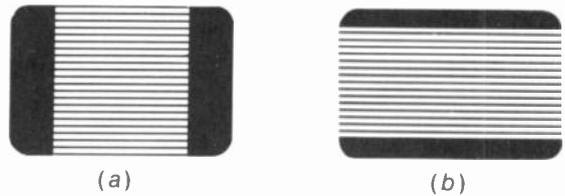

FIGURE 4-7 INCORRECT ASPECT RATIO IN RASTER. BLACK SHOWS AREAS OF SCREEN NOT COVERED BY SCANNING. (a) INSUFFICIENT WIDTH. (b) INSUFFICIENT HEIGHT.
**Incorrect aspect ratio.** Two cases are illustrated in Fig. 4-7. In *a* the raster on the picture tube screen is not wide enough for its height, compared with the 4:3 aspect ratio used in the camera tube. Then people in the picture look too tall and thin, with the same geometrical distortion as the raster. This raster needs more width. In *b*, the raster is not high enough for its width, and people in the picture will look too short. This raster needs more height. For both *a* and *b*, these troubles are generally caused by insufficient output from the horizontal and vertical deflection circuits.